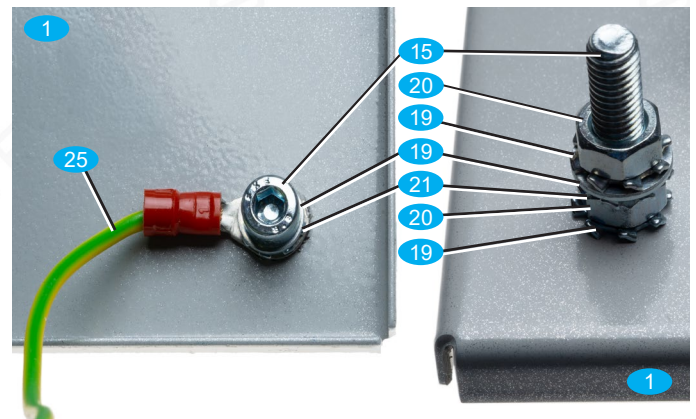

Bild 6: Functional grounding screw (FE) inside / outside
- Assemble the functional grounding screw (FE) together with the ground cable 25 as shown in Fig. 6.